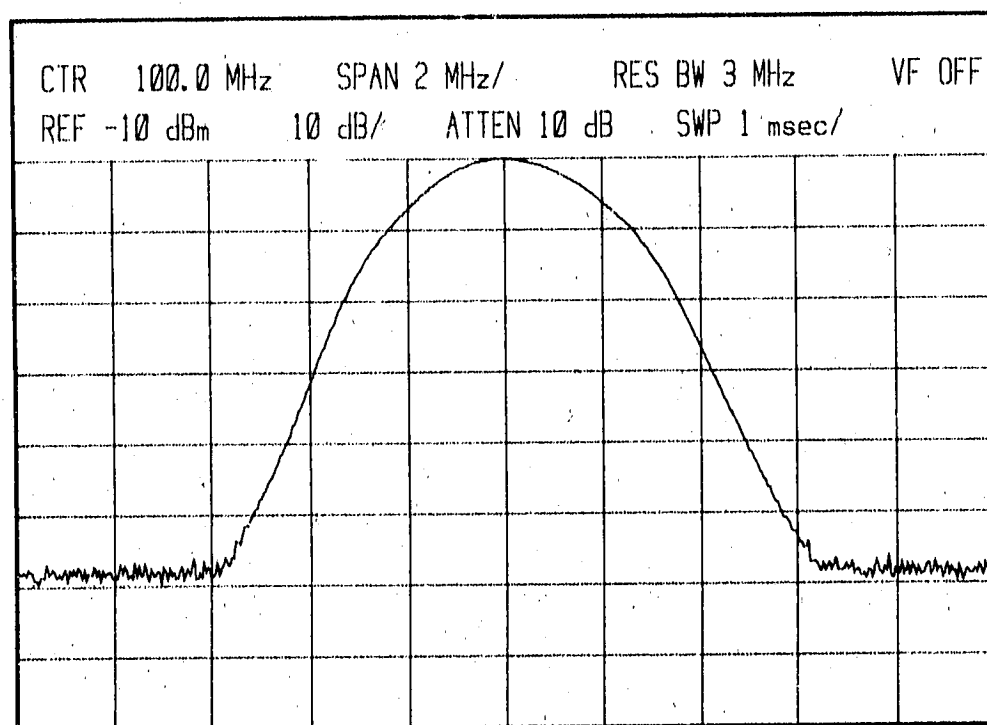

Figure 5-40. 321.4 MHz Bandpass Filter Alignment, Spectrum Analyzer Display
- 22. Check that 100 MHz signal on spectrum analyzer display has a symmetrical bandpass. A typical bandpass shape is shown in Figure 5-40. If bandpass symmetry is worse than shown in Figure 5-40, small adjustments of A37C1 through A37C4 should be performed to improve bandpass shape. However, do not sacrifice more than 1 dB of signal amplitude when adjusting for best bandpass shape (loss of signal amplitude reduces instrument sensitivity).